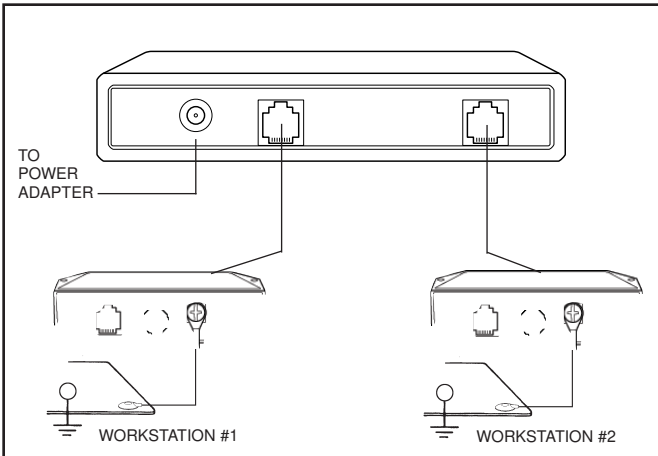

Figure 4. Wiring connection instructions for the 19230 monitor control unit.
Figure 4 shows the monitor control unit as it is viewed from the rear, with the work surface wiring in place.
1. Use rear phone jack connections and connect Satellite Remote Units to base unit with phone cable. See Figure 4 for wiring connection instructions.
4. Confirm that worksurface surface resistance is  $5 \times 10^8$  ohms or less. Connect the stripped end of the worksurface cord included with the unit to the terminal marked "Work Surface" on the back of the unit. Snap the other end to the worksurface grounding point as shown in figures 4 and 5.